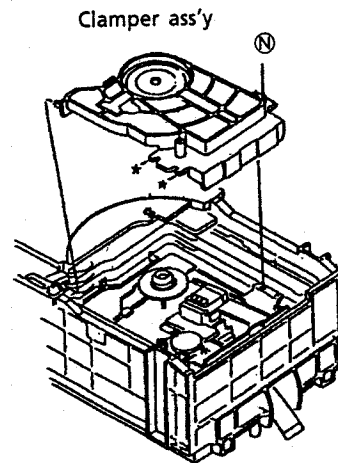

Fig.20
5. Remove a screw ⑤ securing center of the clamber ass'y. (See Fig. 20)